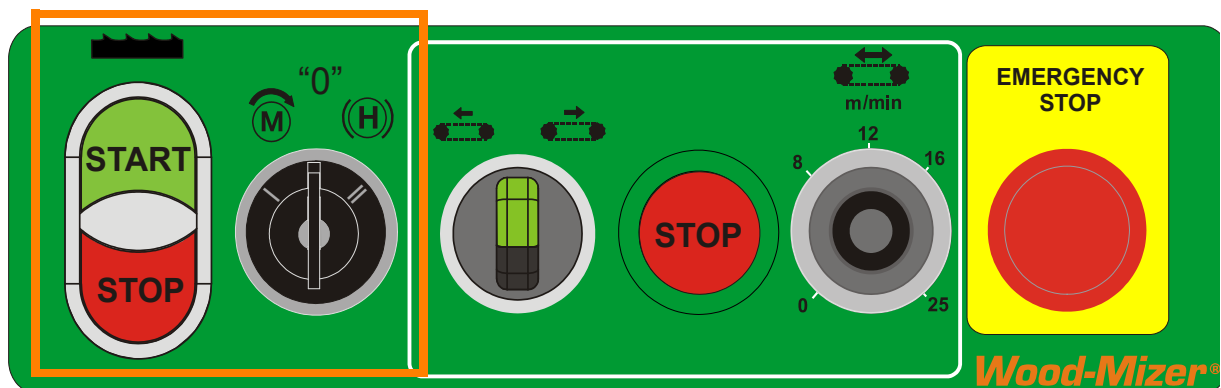

FIG. 2-5
**See Figure 2-5.** Start the blade motor. To do this, turn the key switch to the  position and then push the Blade Start button on the control panel (see the figure below). The motor should start and the blade should start spinning.
The feed track can be stopped by pressing either the Stop button, shown in Figure 2-5, or one of the emergency stop buttons. The emergency stop will also stop the blade motor.